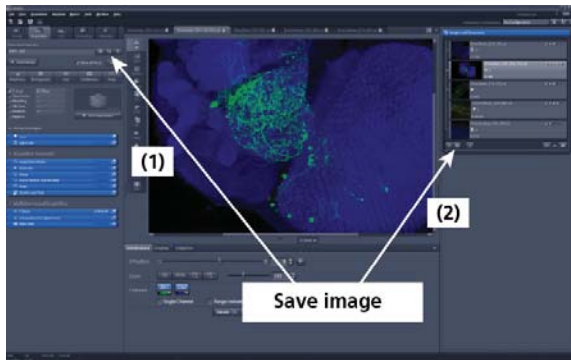

Fig. 27 Save Image buttons in ZEN
- To save your acquired or processed images, click on the **Save** or **Save As** button in **File** menu, or click the  button in the main toolbar (Fig. 27/1), or click on the  button at the bottom of the **File Handling Area** (Fig. 27/2)